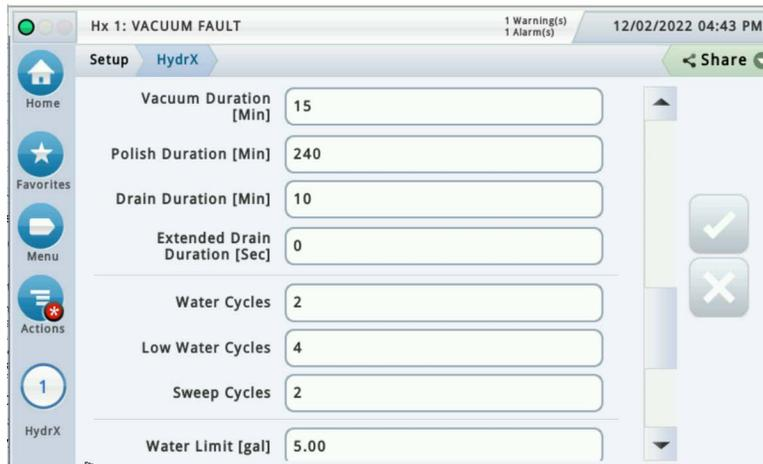

Figure 15. Example HydrX Setup Screen - Page 3
15. Scroll down to the next HydrX set up page (see Figure 15).
- c. Touch the **Vacuum** button to run a Vacuum cycle. The Vacuum Cycle interval depends on time entered in HydrX setup (ref. Figure 15).
- e. Touch the **Polish** button to run a Polish cycle. The Polish Cycle interval depends on time entered in HydrX setup (ref. Figure 15).
- f. Touch the **Drain** button to run a Drain cycle. The Drain Cycle interval depends on time entered in HydrX setup (ref. Figure 15).